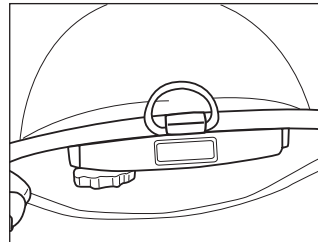

Figure 22
- Return to the first screw and finish tightening it (Figure 22).